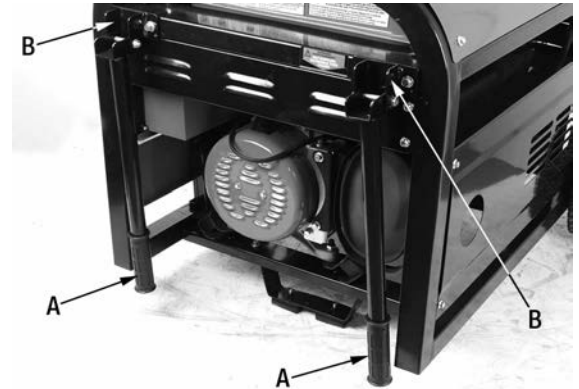

Figure 1
The pivot handles (A) Fig.1 get installed to the right side of the frame. First mount both pivot handle brackets (B) to the frame using 2 flange head hex. bolts on each bracket. Once these brackets are secured to the frame, install the pivot handles to the brackets using a special hex. bolt and flange head hex. nut on each handle.